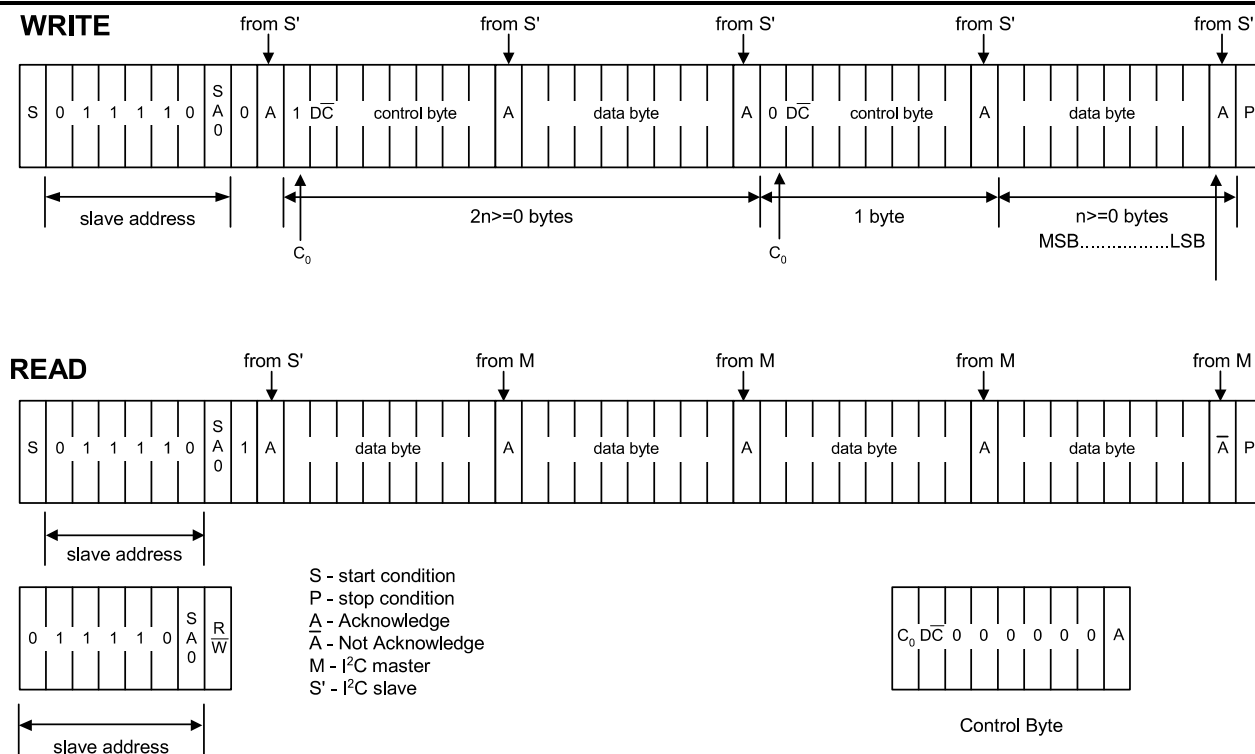

Figure 7 I²C Protocol
The SH1106 supports both read and write access. The $\overline{R/W}$ bit is part of the slave address. Before any data is transmitted on the I²C-bus, the device that should respond is addressed first. Two 7-bit slave addresses (0111100 and 0111101) are reserved for the SH1106. The least significant bit of the slave address is set by connecting the input SA0 to either logic 0(VSS) or 1 (VDD1). The I²C-bus protocol is illustrated in Fig.7. The sequence is initiated with a START condition (S) from the I²C-bus master that is followed by the slave address. All slaves with the corresponding address acknowledge in parallel, all the others will ignore the I²C-bus transfer. After acknowledgement, one or more command words follow which define the status of the addressed slaves. A command word consists of a control byte, which defines Co and $\overline{D/\overline{C}}$ (note1), plus a data byte (see Fig.7). The last control byte is tagged with a cleared most significant bit, the continuation bit Co. After a control byte with a cleared Co-bit, only data bytes will follow. The state of the $\overline{D/\overline{C}}$ -bit defines whether the data-byte is interpreted as a command or as RAM-data. The control and data bytes are also acknowledged by all addressed slaves on the bus. After the last control byte, depending on the $\overline{D/\overline{C}}$ bit setting, either a series of display data bytes or command data bytes may follow. If the $\overline{D/\overline{C}}$ bit was set to '1', these display bytes are stored in the display RAM at the address specified by the data pointer. The data pointer is automatically updated and the data is directed to the intended SH1106 device. If the $\overline{D/\overline{C}}$ bit of the last control byte was set to '0', these command bytes will be decoded and the setting of the device will be changed according to the received commands. The acknowledgement after each byte is made only by the addressed slave. At the end of the transmission the I²C-bus master issues a stop condition (P). If the $\overline{R/W}$ bit is set to one in the slave-address, the chip will output data immediately after the slave-address according to the $\overline{D/\overline{C}}$ bit, which was sent during the last write access. If no acknowledge is generated by the master after a byte, the driver stops transferring data to the master.